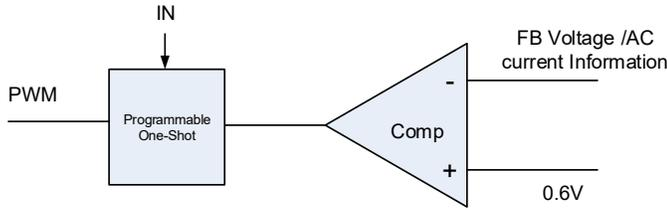

Figure 4. Simplified Control Schematic of AOZ23567QI
The control algorithm of AOZ23567QI is constant-on-time PWM control with input feed-forward. The simplified control schematic is shown in Figure 4. The high-side switch on-time is determined solely by a one-shot whose pulse width can be programmed by one external resistor and is inversely proportional to input voltage (IN). The one-shot is triggered when the internal 0.6V is higher than the combined information of FB voltage and the AC current information of inductor, which is processed and obtained through the sensed lower-side MOSFET current once it turns-on. The added AC current information can help the stability of constant-on-time control even with pure ceramic output capacitors, which have very low ESR. The AC current information has no DC offset, which does not cause offset with output load change, which is fundamentally different from other V^2 constant-on-time control schemes.